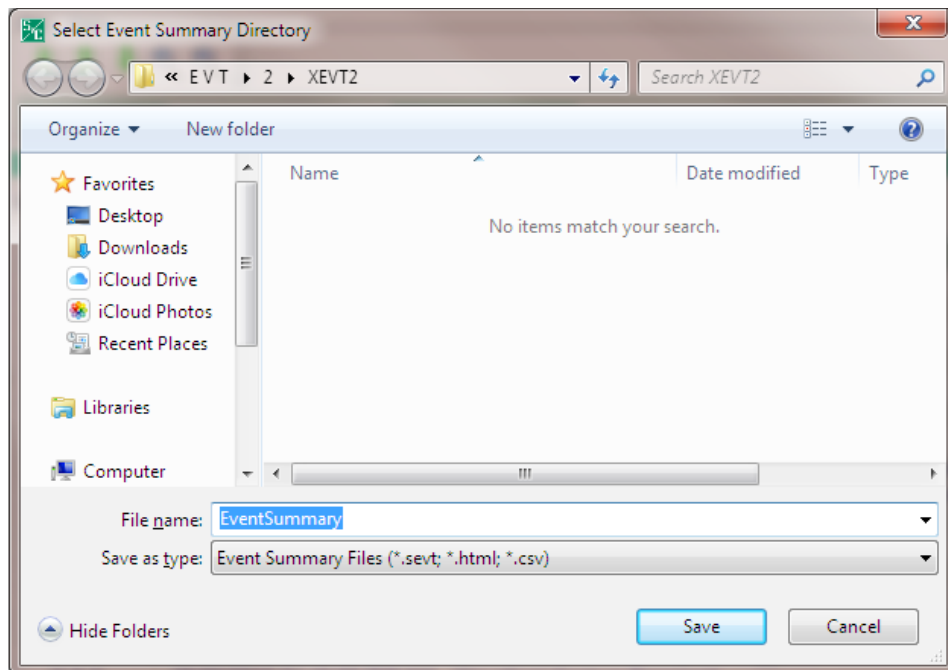

Figure 15. The Select Event Summary Directory dialog box.
- STEP 2.** Select a directory where the Event Summary Log will be saved, and click on the **Save** button. See Figure 15.